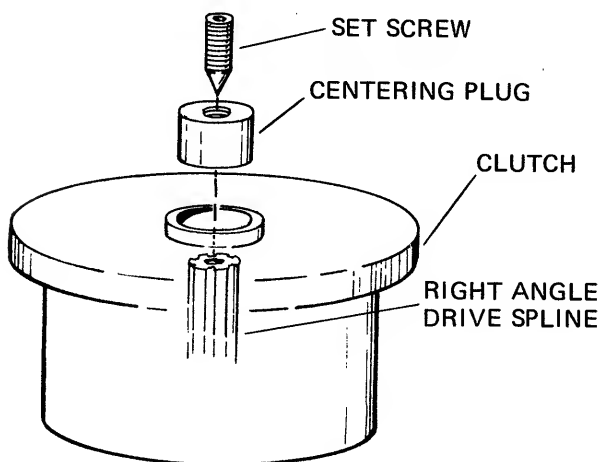

FIG. 21
It is recommended that a centering plug for reassembly of the clutch be purchased through your nearest authorized central service firm before you disassemble the clutch. This special tool is only needed if the clutch housing is removed from the clutch plate. It is not necessary when working on the throwout or right angle drive. The part number of the centering plug is 901-_____. (see Fig. 21)
23. Screw the allen set screw into the centering plug (part number 901-_____) until the cone of the set screw shows through the end of the centering plug. (see Fig. 21)